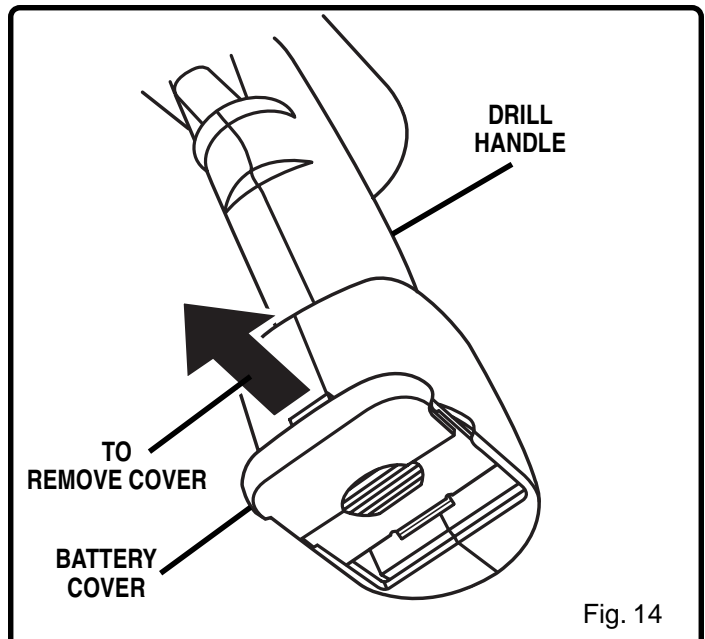

Fig. 14
See Figures 14 and 15.
- Remove battery cover from bottom of drill handle by depressing and pushing cover in the direction of the arrow as shown in figure 14.